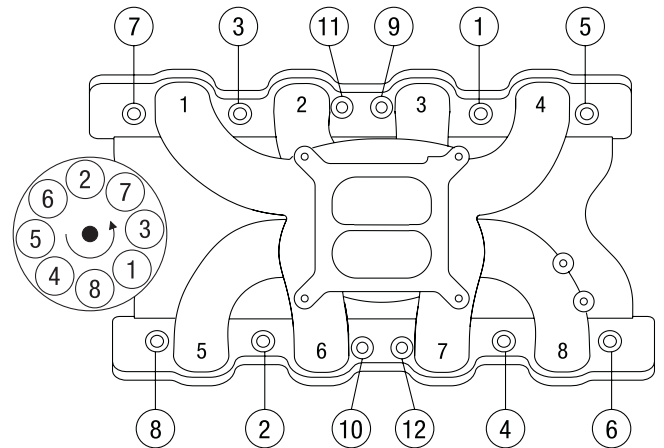

Figure 1 - Manifold Bolt Tightening Sequence
5. Install the intake manifold and hold-down bolts. Torque all of the manifold bolts in two steps by the sequence shown in Figure 1 to 18-20 ft/lbs.